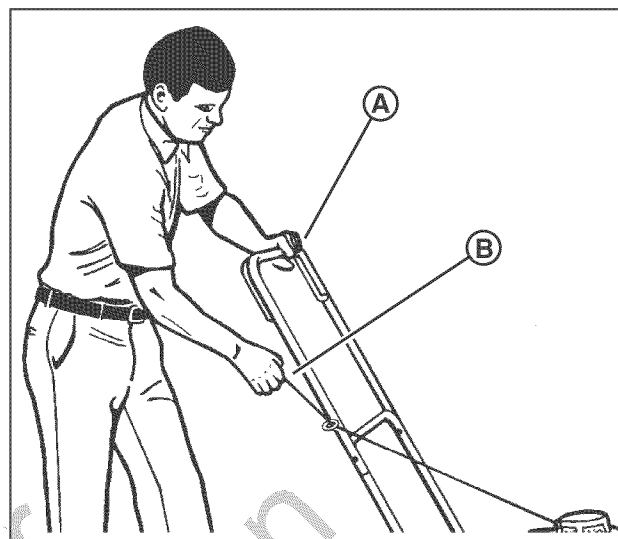

Figure 14: Starting the engine
5. Stand behind the mower. Use one hand to hold the engine stop lever in the operating position (A, Figure 14).
6. Start the mower: Pull the rope start handle (B) to crank the engine.